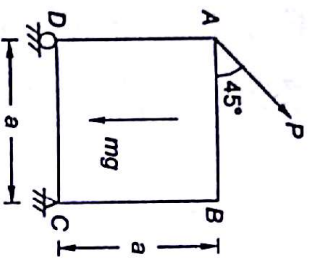

Fig. 3.58
3.1 A block of mass m , side a is shown in Fig. 3.58. A force P at an angle 45° is applied at edge A. What is the magnitude of force P so that block is just lifted from roller at D?